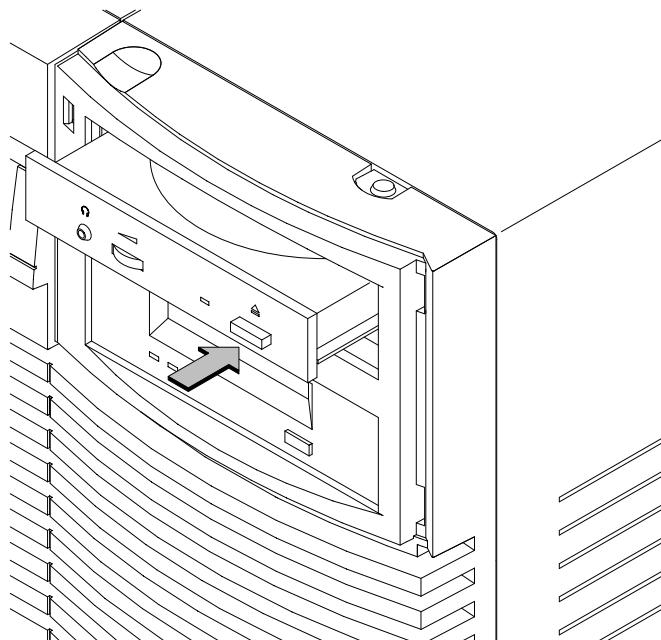

Figure 6–5. CD-ROM Disc Tray Partway Open
1. Press and release the eject button on the CD-ROM drive. The disc tray opens approximately 1 inch, as shown in Figure 6–5.